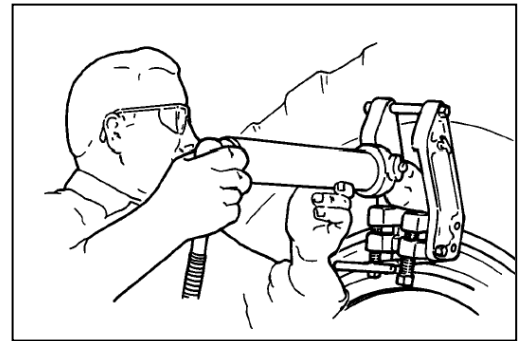

Figure 5
- Apply pressure to cylinder and spade by means of pump until spade has moved tire bead toward center of rim assembly far enough to permit the placing of a bead wedge between bead and flange on each side of the tool. Do not stand in front of tool is under pressure. See Figure 5.